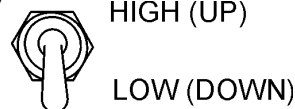

Figure 57. Engine Throttle Handle (Idle)
3. Make sure the engine speed switch is set on "LOW" (Figure 57).